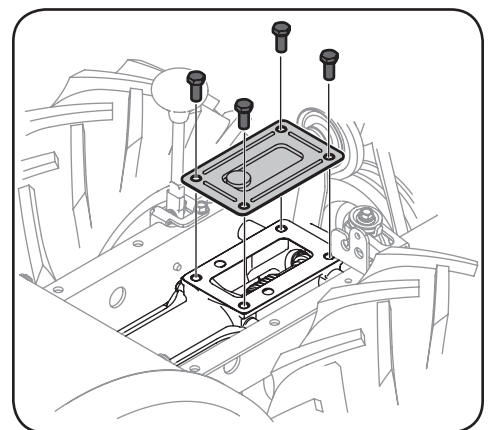

Figure 5-3
- Remove the four hex screws (5/16-18 x .75) securing the transmission cover to the drive shaft and remove the cover. Locate the main drive shaft below the cover. See Figure 5-3.